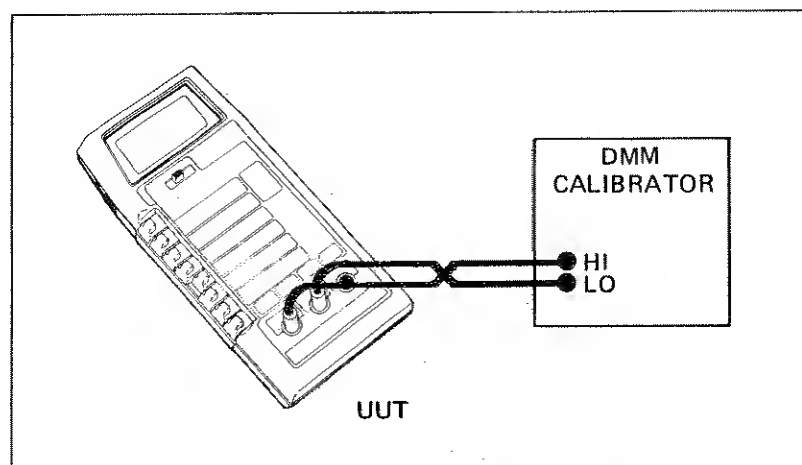

Figure 4-4. General Equipment Connection - Current
1. Connect the equipment as shown in Figure 4-4.